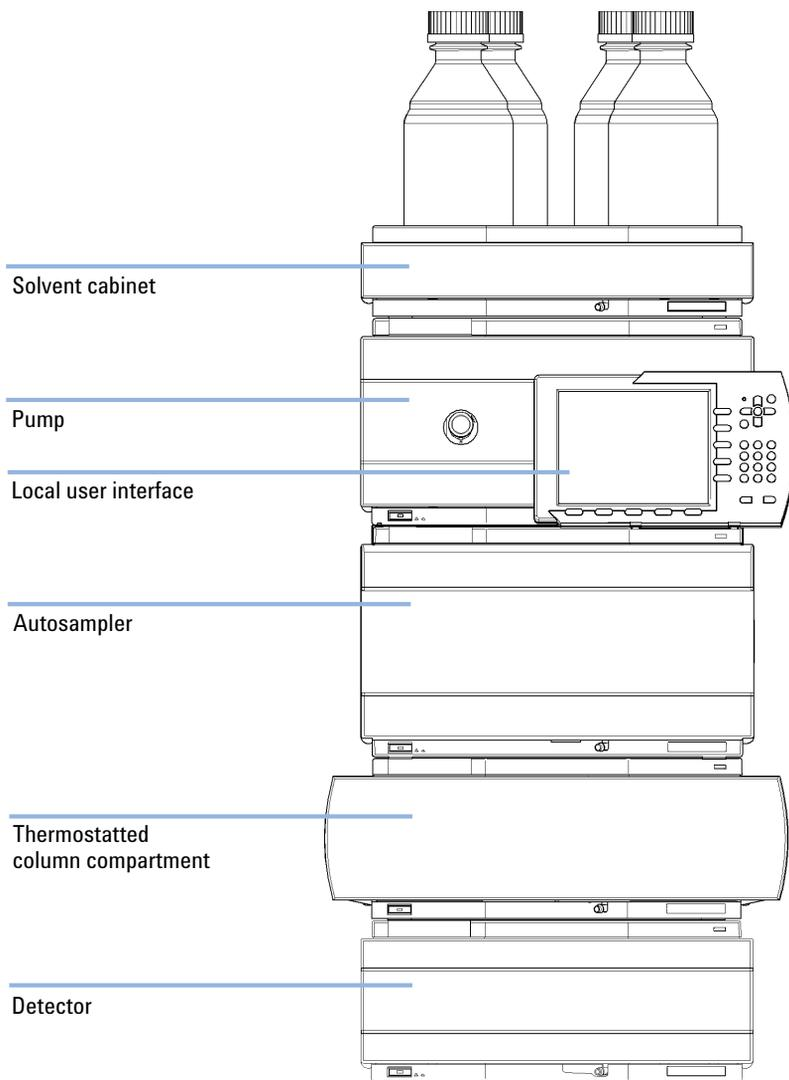
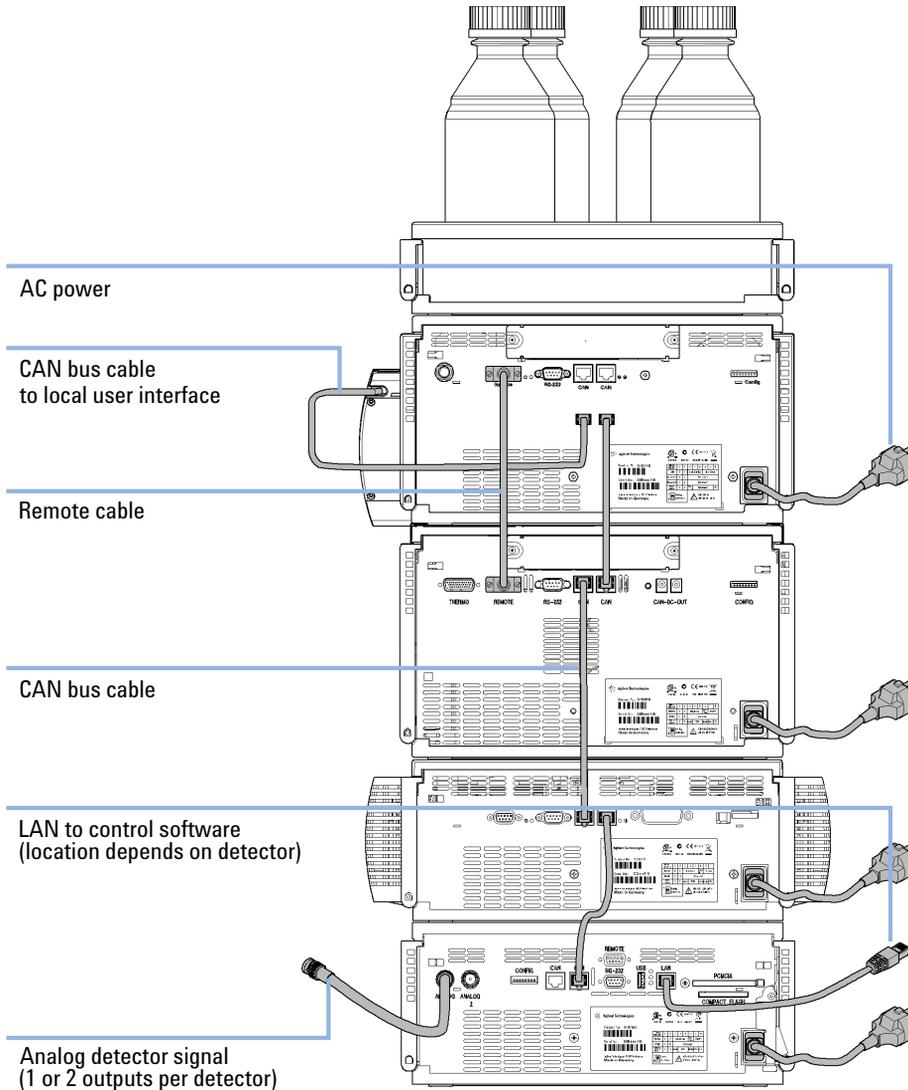

Figure 10 Recommended Stack Configuration (Front View)
Figure 11 Recommended Stack Configuration (Rear View)
Ensure optimum performance by installing the modules of the Agilent 1260 Infinity LC System in the following configuration (see Figure 10 on page 48 and Figure 11 on page 49). This configuration optimizes the flow path for minimum delay volume and minimizes the bench space required.
- 1 Place the individual modules in a stack configuration as shown in Figure 10 on page 48.
- 4 Connect the CAN cable to the CAN connector of the next module, see Figure 11 on page 49.
- 1 Place the vacuum degasser in the stack of modules as shown in Figure 10 on page 48.
- 5 Connect the APG cable to the APG remote connector of the pump, see Figure 11 on page 49.